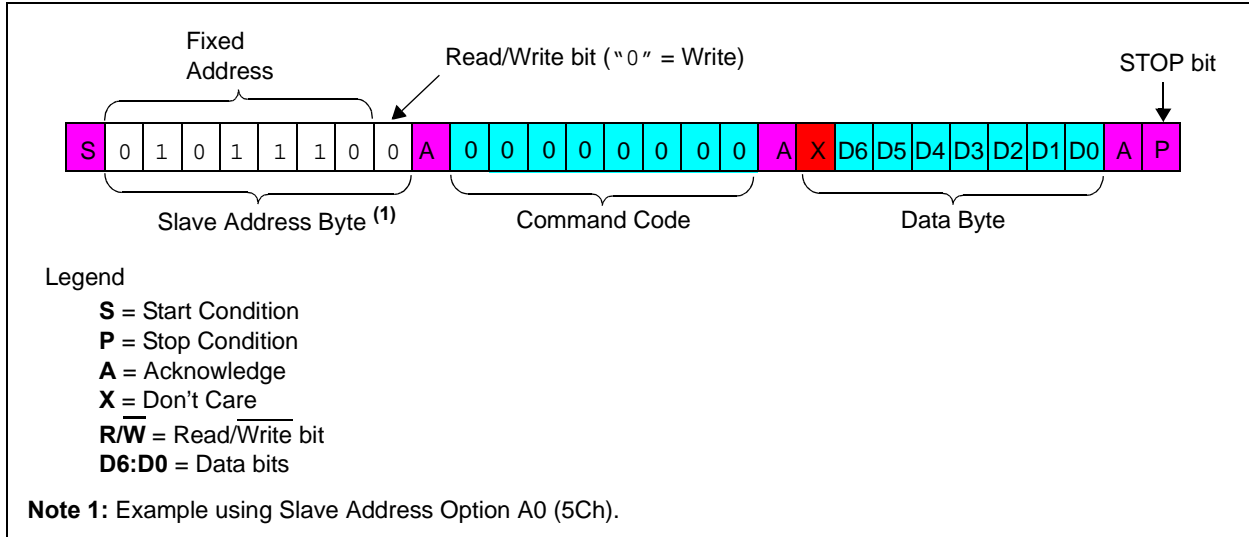
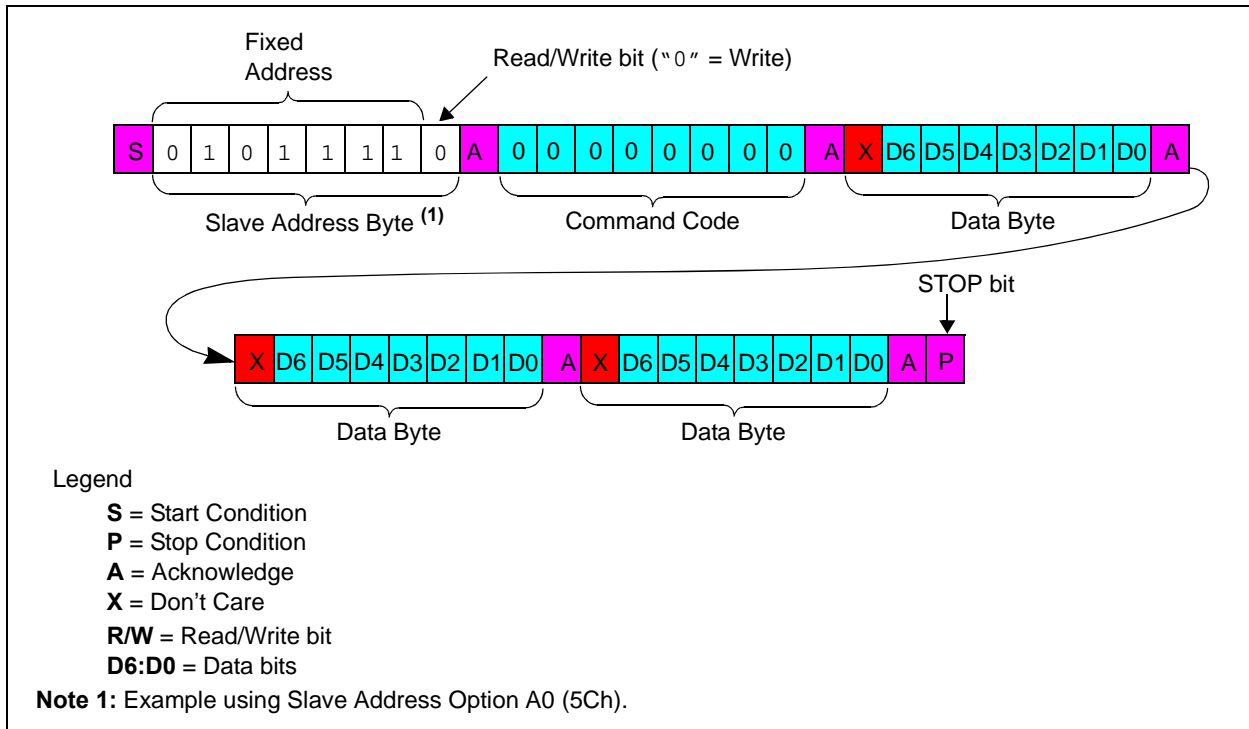

FIGURE 5-11: I²C Single Byte Write Command Format.
FIGURE 5-12: I²C Write Command Format.
Data bytes may be written after each Acknowledge. The command is terminated once a Stop (P) condition occurs. Refer to Figure 5-11 for the single byte write sequence and Figure 5-12 for the generic (multi-byte) write sequence. For a single byte write, the master sends a STOP or RESTART condition after the 1st data byte is sent.